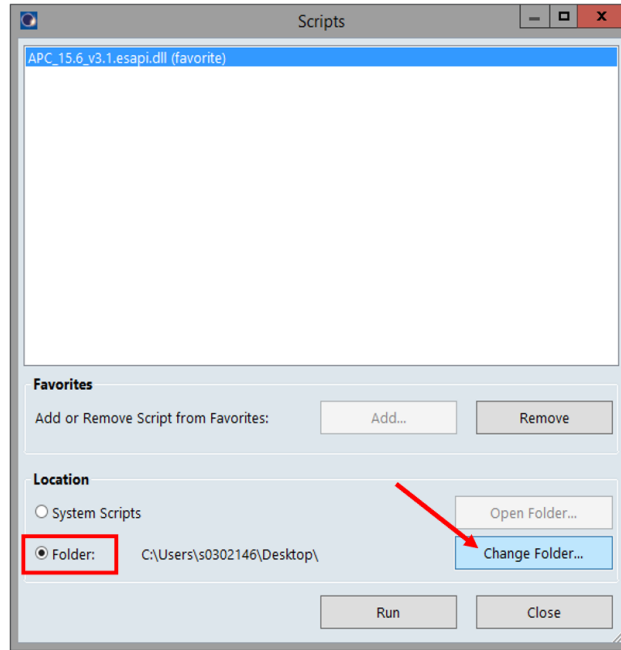

Figure 2: How to change the location of the folder used to load scripts (.dll files).
- Select 'Folder' and 'Change Folder ...' (Figure 2)